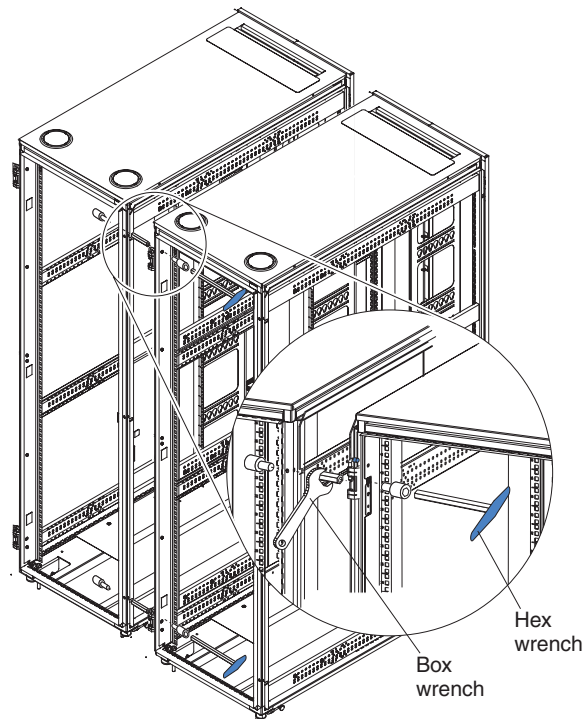

Figure 16. Attaching standard and expansion racks to each other to form a suite
3. Insert an attachment pin that comes with the expansion rack through the top slot on the front of the standard and expansion racks as shown in Figure 16. The slot is behind the top hinge.